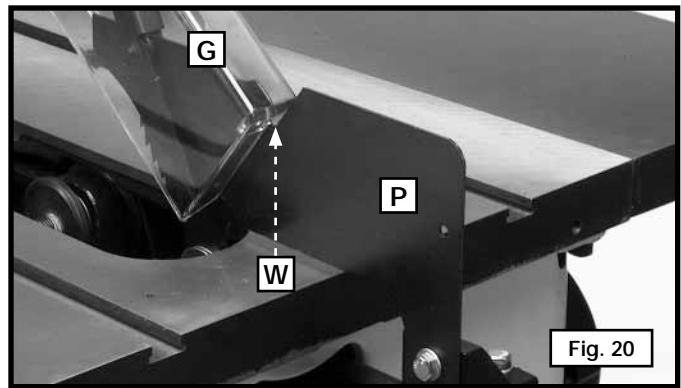
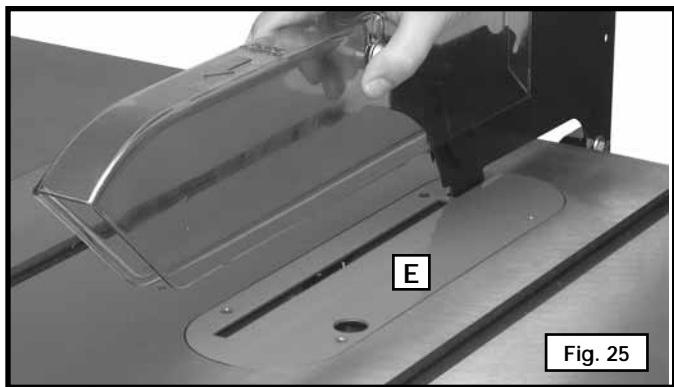

Fig. 20
Fig. 25
11. **IMPORTANT:** The splitter (P) Fig. 20 has a notch (W) in the top edge. Raise the front of the blade guard (G) Fig. 25, until the rear edge of the guard slips into notch (W) of the splitter. This notch keeps the blade guard in the raised position.
14. Hold the blade guard and lower the saw blade. Install the table insert (E) Fig. 25 in the opening of the saw table.